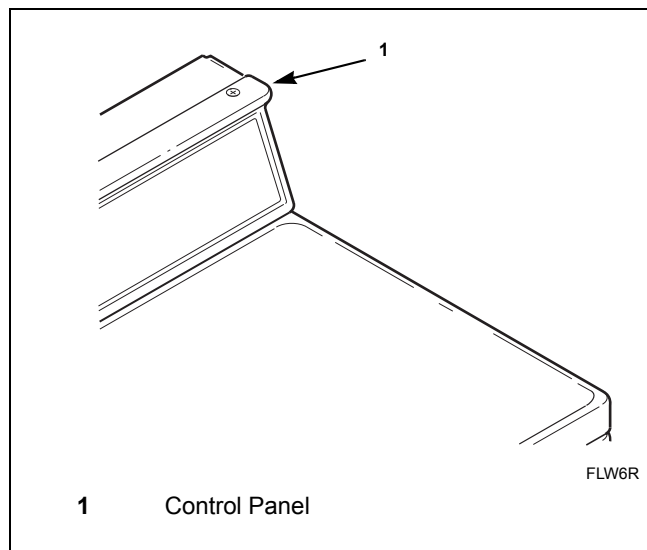

Figure 18
1. Open control panel. Refer to *Figure 18*.